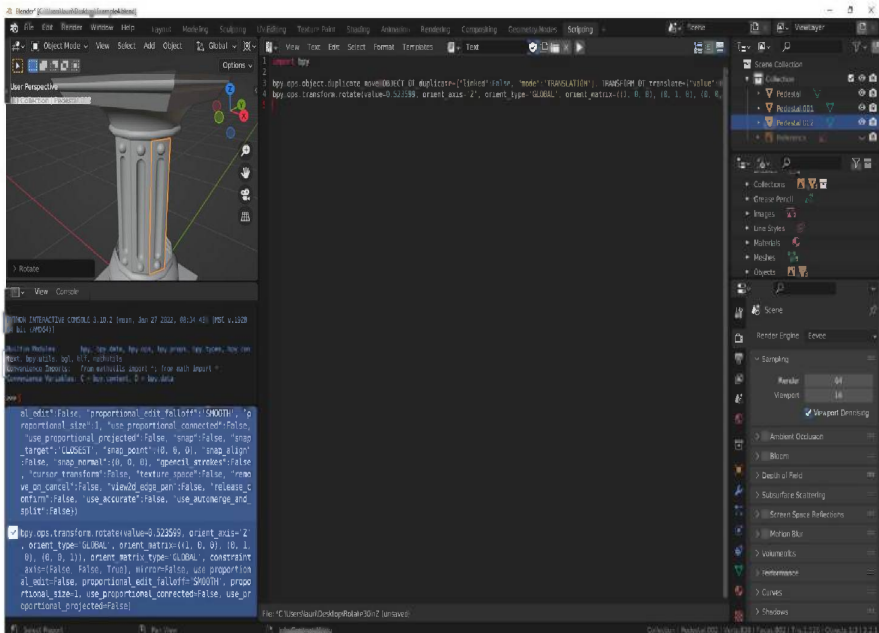

Figure 4.37: Previous two steps recorded as blocks of code, highlighted, copied, and pasted into a new Text file
40. Press and hold **Shift** + **left-click** to select both the last, and the previous step in the list as shown in *Figure 4.37*:
With the code pasted into the Text file as shown in *Figure 4.37*, all that is left to do to repeat the operation is press the large right-pointing triangle icon at the top middle of the Text Editor viewport, appearing as a Play button.